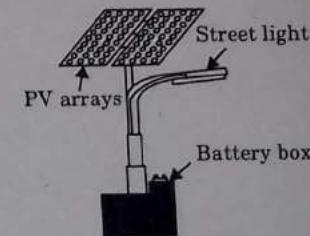

Fig. 1.16.1. Solar street light.
1. It comprises of a compact fluorescent lamp, two 35 watt solar arrays and an 80 ampere-hour tubular cell battery as shown in Fig. 1.16.1.